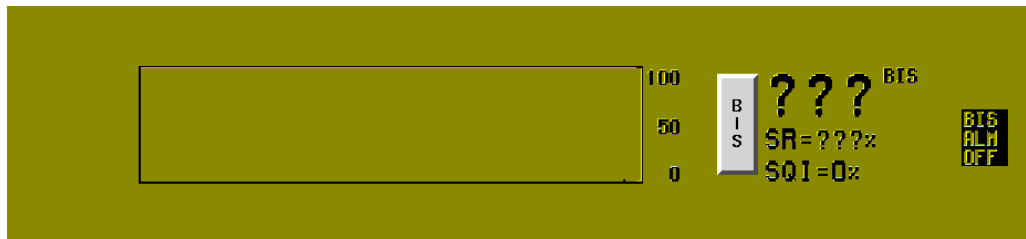

Figure 23-12: One-zone display
- Touch 1 ZONE to display the single waveform zone format (*Figure 23-12*).